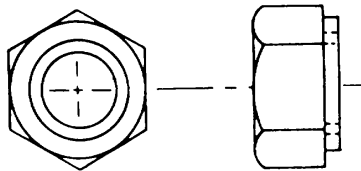

Figure 2-28. Airframe Plain Nut
j. Airframe Plain Nuts. Use airframe plain nuts AN315, as shown in figure 2-28, in structural application. An auxiliary locking device, such as a checknut, or a lockwasher, is required when this type nut is used.